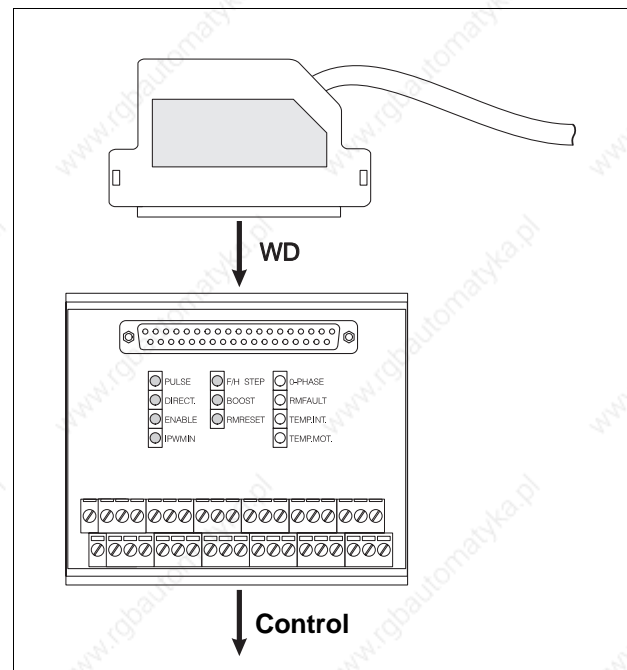

Figure 6-4 Initial Operation of Terminal Adapter D732
2. Connect Terminal Adapter D 732 with cable to WD equipment, see figure 6-4.